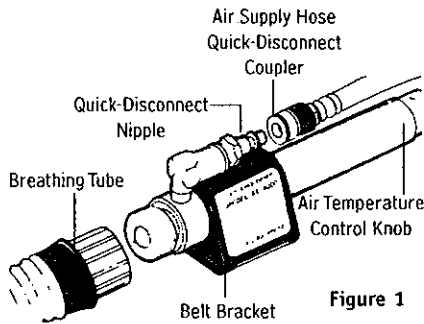

Figure 1
1. In an uncontaminated atmosphere screw the hose connector fitting on the end of the breathing tube to the fitting on the AC1000. Tighten hose connectors firmly (Figure 1).
6. To obtain cooler air, turn the air temperature control knob counterclockwise (Figure 1).